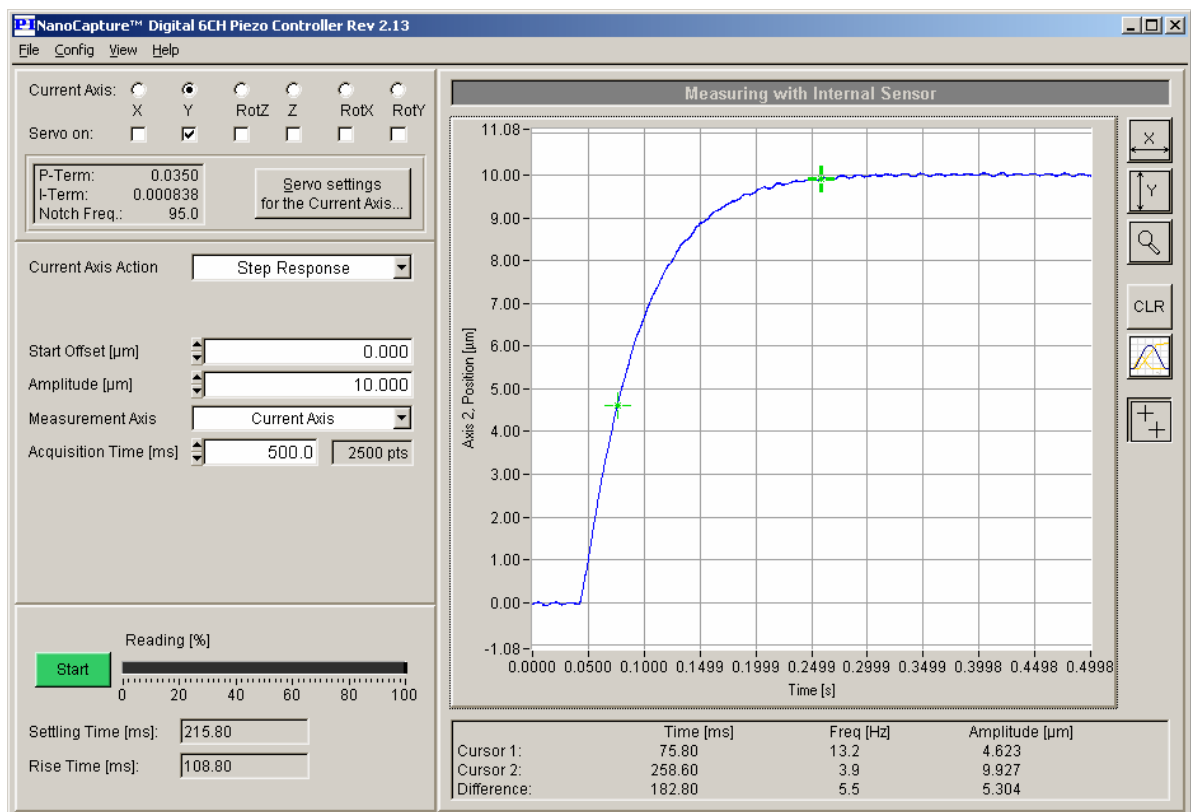

Fig. 48: Closed-loop step response; low loop gain, low speed, no overshoot
8. Observe the results, comparing with the examples shown (Fig. 48 to 50).
- If the *loop gain* value is very low (as in Fig. 48) then the rise rate of the stage response curve will also very low.